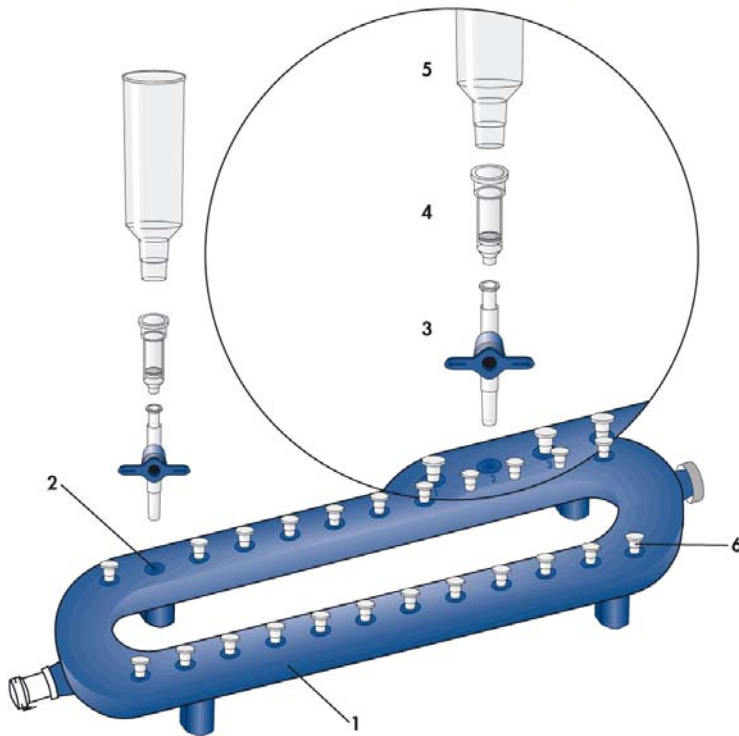

Figure 1. Setting up the QIAvac 24 Plus with CompactPrep columns using VacValves
- Remove the collection tube from the CompactPrep column. Do not discard! Insert up to 24 CompactPrep Midi or Maxi columns into the luer extensions of the QIAvac 24 Plus. Attach a tube extender (10 ml) to each CompactPrep Midi column and a tube extender (20 ml) to each CompactPrep Maxi column. Close unused positions of the manifold with luer caps and connect the QIAvac 24 Plus to a vacuum source. See Figure 1, page 18.